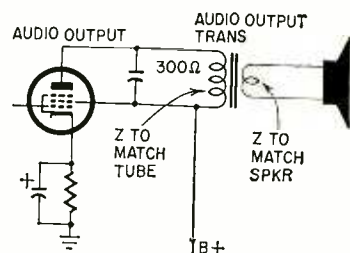

Fig. 3—Resistance figure next to output transformer is dc resistance, for troubleshooting—not load impedance.
*matic (Fig. 3) gives the load resistance of the output transformer as 300 ohms. I can't find an output transformer to match this! Can you tell me where to find one?—A. McA., Houston, Tex.*